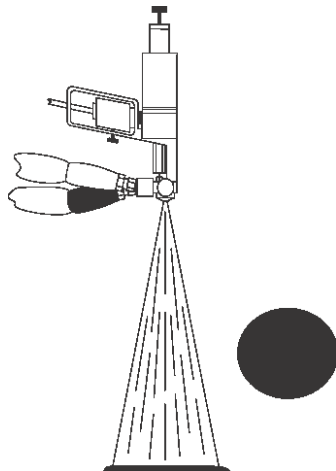
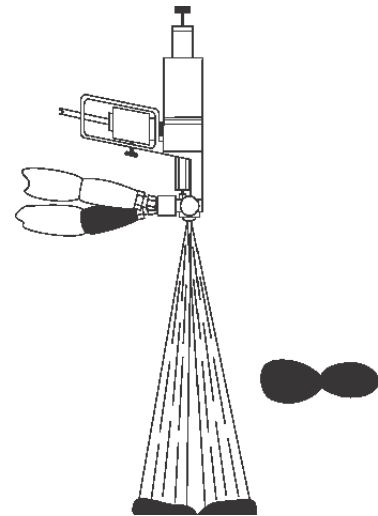

FIG. 13: Desired Pattern
FIG. 14: Split Pattern
- a. After you back out adjustment screw, make fine adjustments (1/8 turns or less in either direction as required) to obtain pattern shown in FIG. 13. Moving the screw out beyond this point may cause the pattern to split, as shown in FIG. 14.